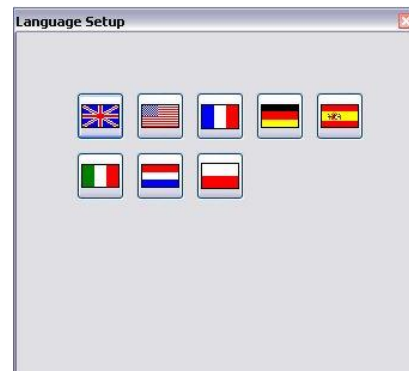

Figure 2.5 FlexiSight Manager Language Setup Screen
1. You can choose to install FSM in one of the languages supported. Choose your preferred language by pressing on a country flag (see Figure 2.5).